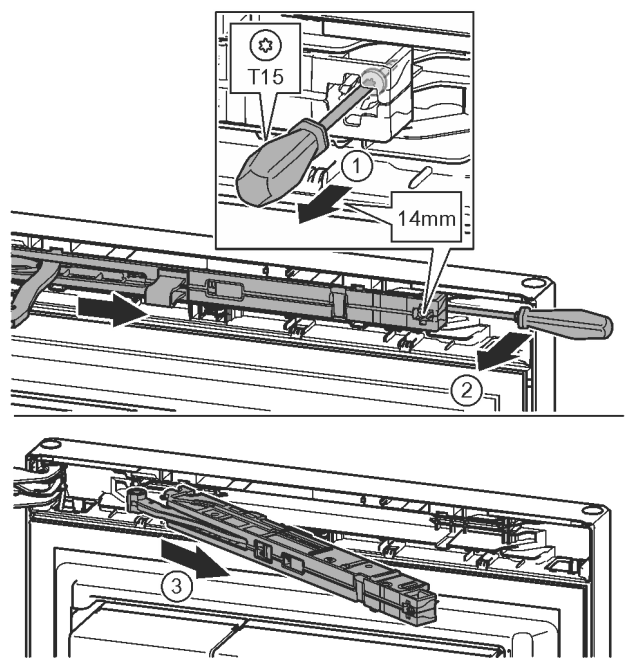

Fig. 13
- ▶ Undo the soft stop mechanism screw with a T15 screwdriver approx. 14 mm. Fig. 13 (1)
- ▶ Insert a screwdriver behind the soft stop mechanism on the handle side and rotate forwards. Fig. 13 (2)
- ▶ Remove the soft stop mechanism. Fig. 13 (3)